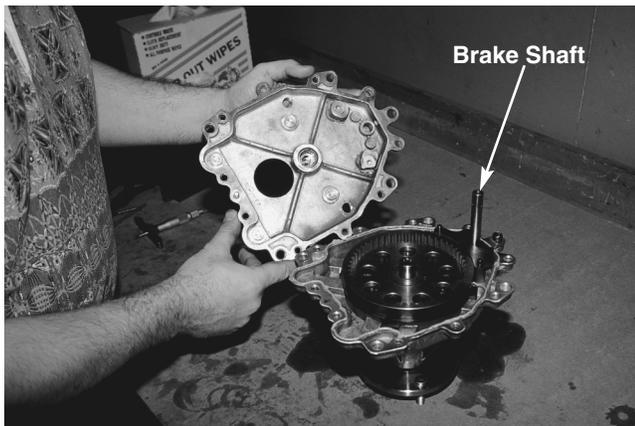

FIGURE 31.
31. Before installing the smaller housing place a light coating of oil on the brake shaft and check to be sure the needle bearing is lubricated. See figure 31.